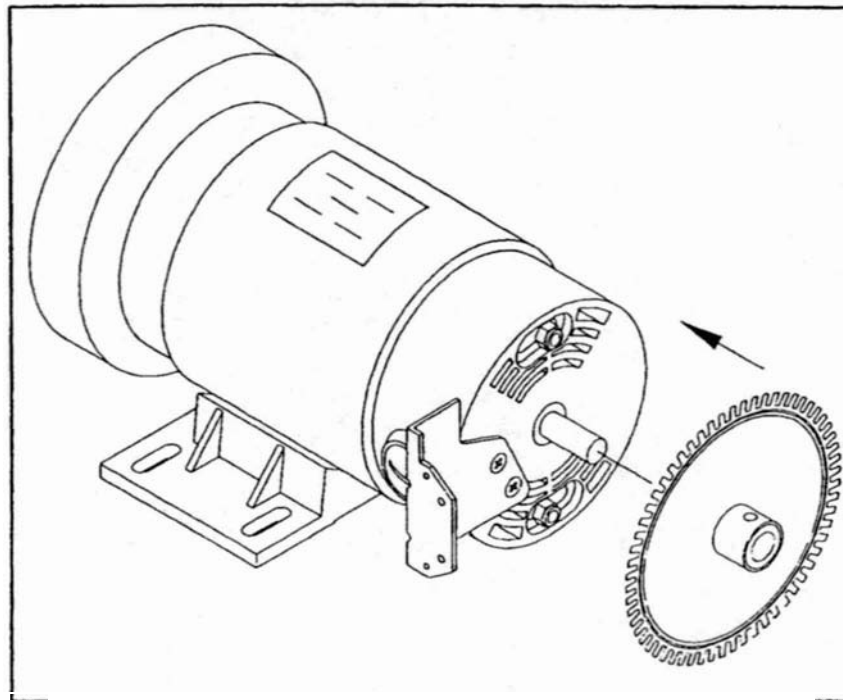

Fig.3
4. Put the new-style tachometer wheel (64T) onto the shaft of motor. (see Fig.3)